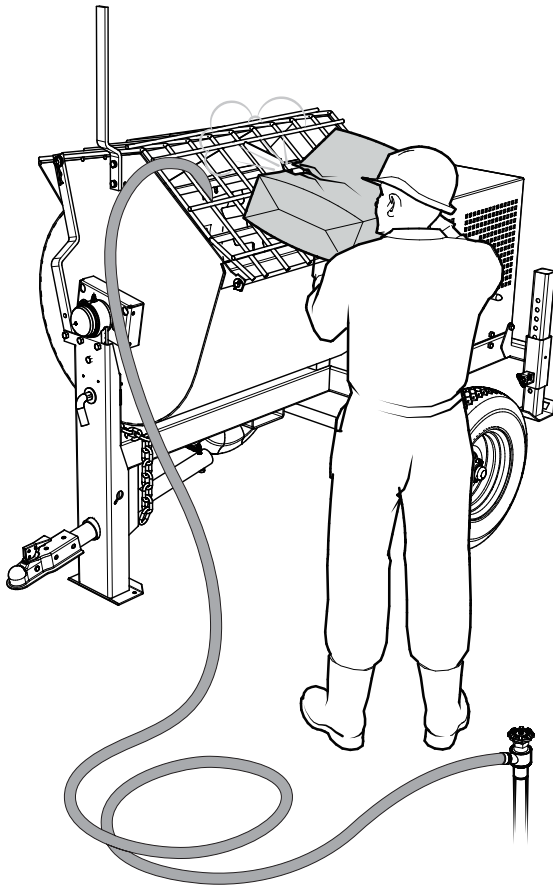

Figure 25. Filling Mixing Drum
- Add a small amount water to the mixing drum (Figure 25).
- Lift the mixing bag compound (Figure 25) onto the steel safety grate over the **bag cutter** and let the contents fall into the drum. Add more water if desired and mix compound to desired consistency.